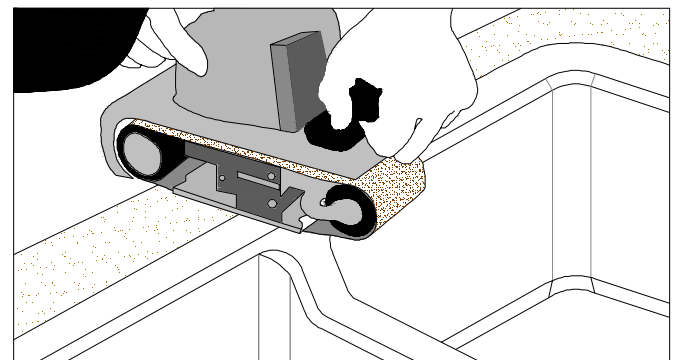

Figure 15D
- Keep the belt sander level in order to sand the sink rim level with the substrate. (FIG. 15D)